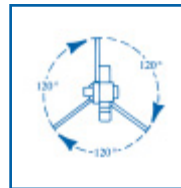

Figure 5.
- Be sure the legs are equidistant from one other (Figure 5).
The legs should be in the “High Profile” position. Position the two legs so they point in the direction of second base, and one leg points toward home plate. (This is the exact opposite of the position of the legs when you are throwing straight balls. See Figure 5). Position the rotating plate so that the ball feed chute is near the bottom of the tire or wheel and facing the operator.